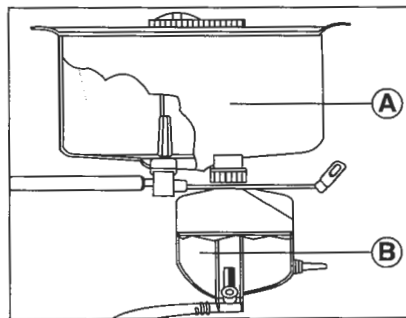

Fig. 9
*Stella* scooters are produced with AOM (Automatic Oil Mixer) for engine lubrication, and therefore have two separate tanks, one for petrol 'A' and the other for 2T oil 'B' (fig. 9).